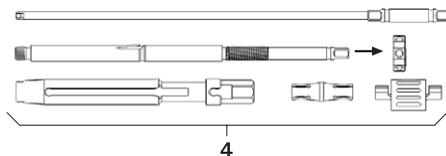

Fig. 2
- ▶ Disassembling reduction lever 4, see Fig. 2. Fully disassemble reduction lever and unscrew lock nut.